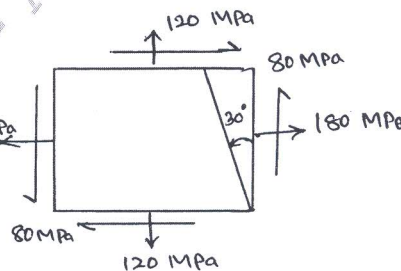

Fig.Q3(b)
- b. An element is subjected to stress system as shown in Fig.Q3(b). Determine (i) Normal and tangential stress on the oblique plane. (ii) Resultant stress (iii) Angle of obliquity (iv) Principal stresses and their planes (v) Maximum shear stress and its planes.